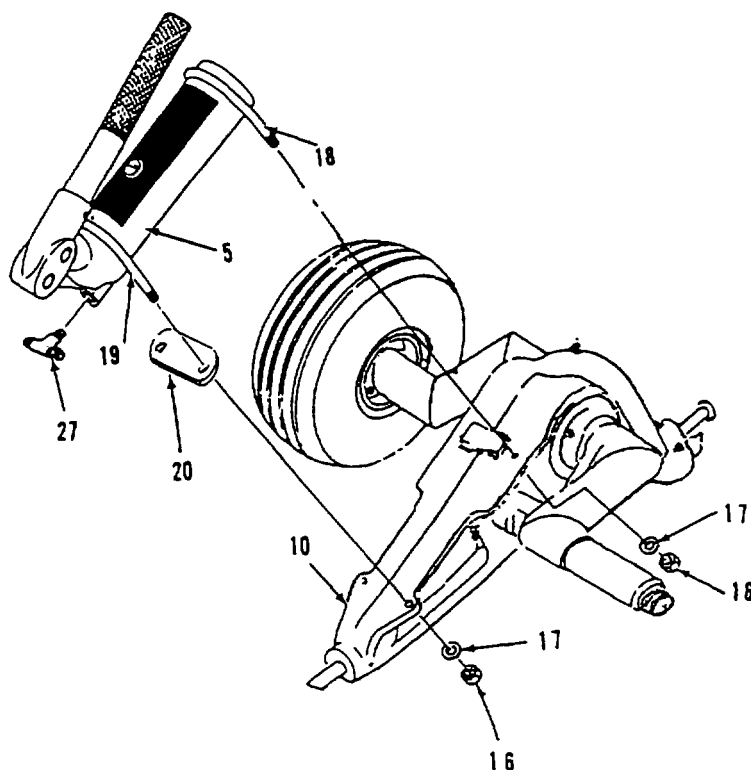

Figure 3-5. Hydraulic Pump, Part No BU0953B
2. Refer to figure 3-5 and install Hydraulic Pump (5), with part number BU0953B.
- a. Position hydraulic pump (5) on cradle assembly (10) until it is centered over four mounting holes in cradle.
- b. Install spacer (20) under pump at front, install U-bolt (19) over pump body (5) and insert through holes in spacer and cradle; attach U-bolt with washers (17) and nuts (16).
- c. Install bolt (18) over pump body (5) and insert through holes in cradle; install washers (17) and nuts (16).
- d. Install tee fitting (27), wrapped with Teflon Tape (item 8, Appendix D), in reducer/metering valve in pump.
- e. Connect hose assemblies to both sides of tee fitting (27), but do not tighten completely at this time. Ensure that hoses do not rub on wheels.
Refer to figure 3-5 or 3-6 and perform fill and bleed procedure of hydraulic system as follows: